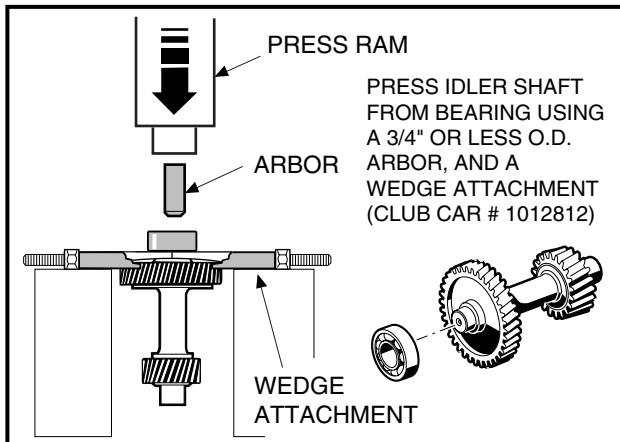

FIGURE 10-53
2. Place a bearing puller wedge attachment (Club Car Part No. 1012812) between the bearing and the larger gear on the idler shaft, then press the bearing off the shaft as shown (**Figure 10-53, Page 56**).